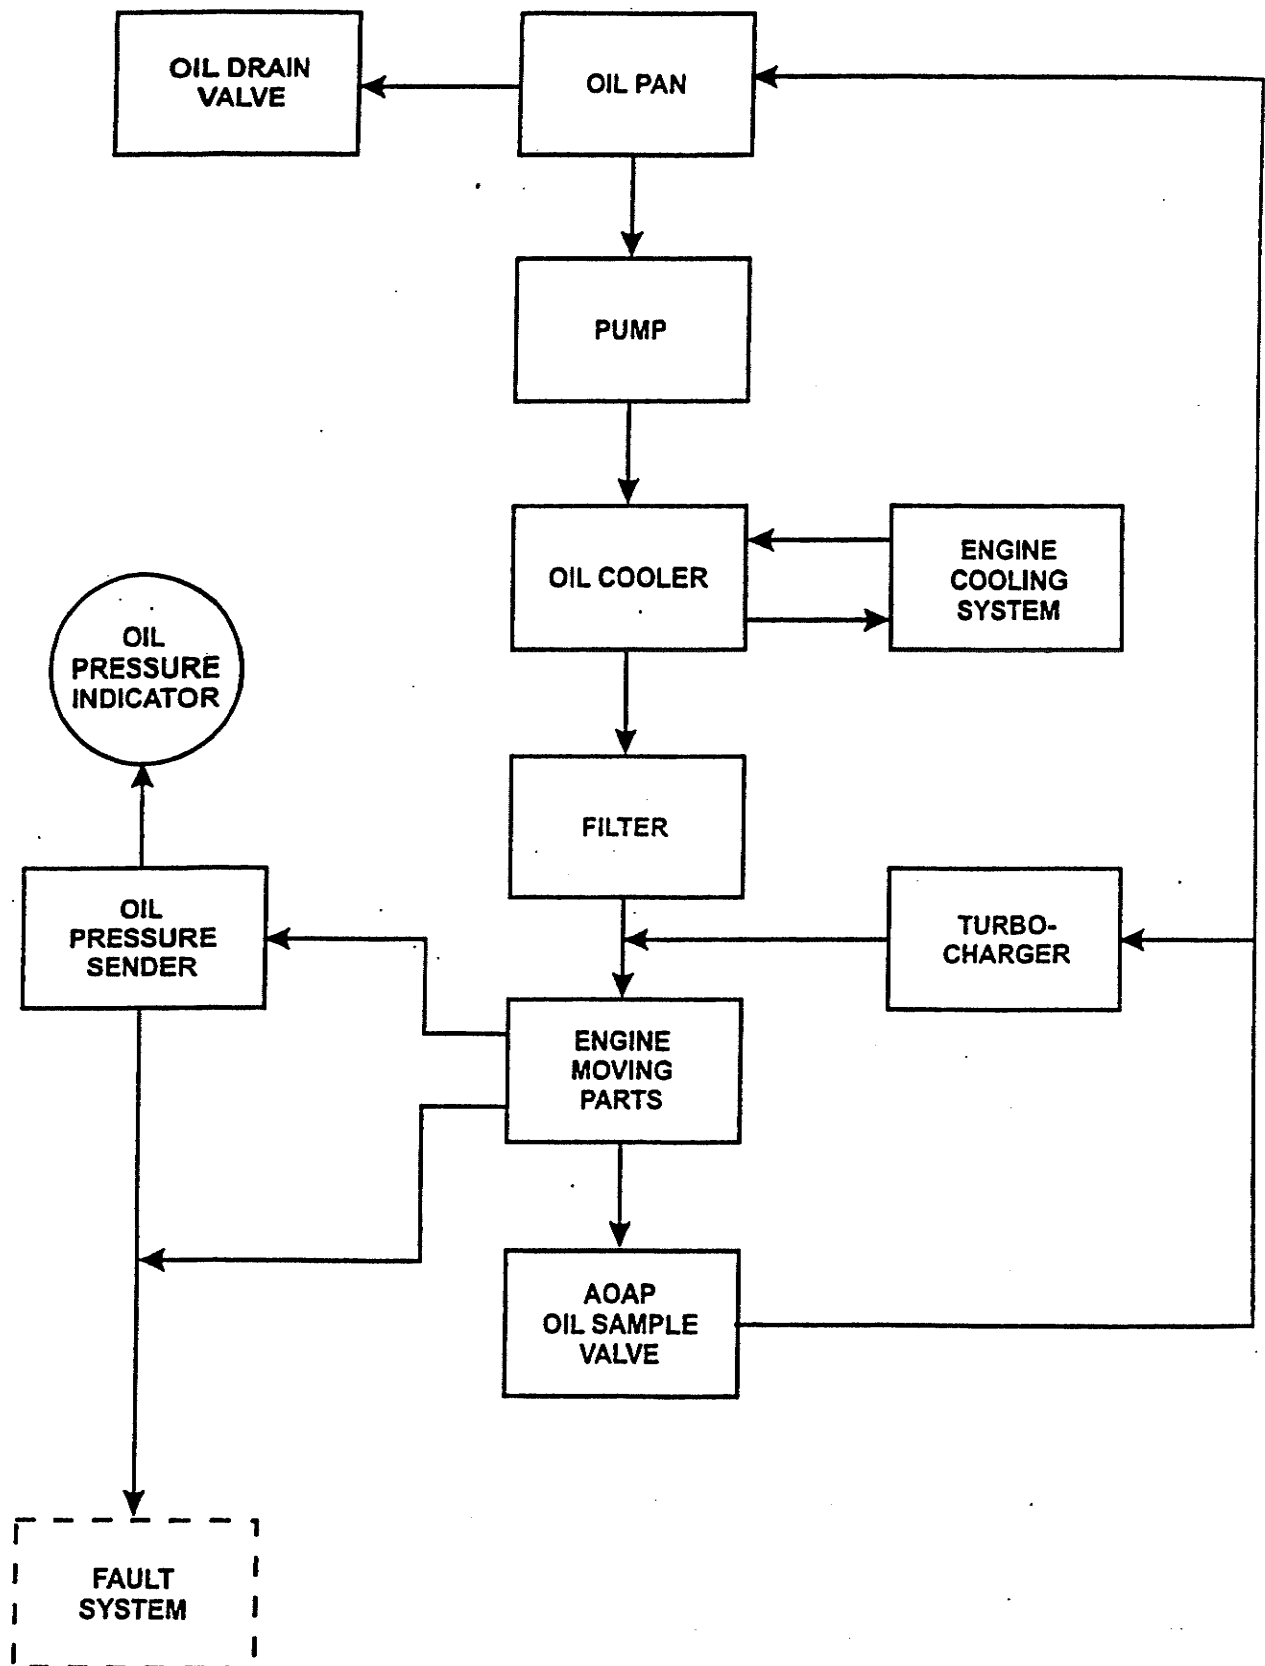

FIGURE 1-25. LUBRICATION SYSTEM FLOW DIAGRAM
- 1.16.9.1 The Engine Lubrication System (Figure 1-25) consists of an oil pan, dipstick, pump, oil cooler, oil sample valve, oil pressure sender, CIM display screen OIL PRESSURE indicator, oil drain valve, and filter.